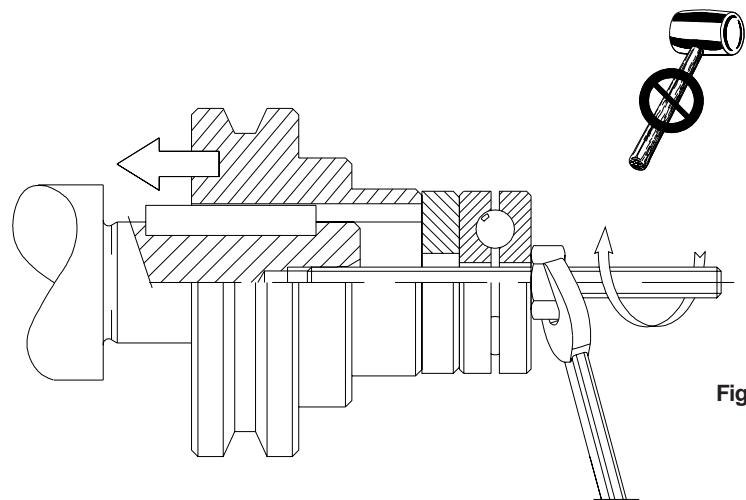

Fig.1
- Pulleys, sprockets, couplings, shafts and other output devices must be securely mounted on the solid or hollow shafts. Use threaded holes or similar locking methods to ensure correct operation without risking damage to the bearings or external reducer parts. (fig.1).